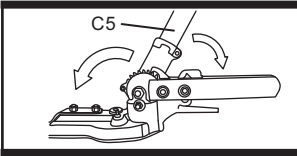

Fig. 16b
- b). Move the hedge trimmer shaft (C5) with the other hand until the desired angle is adjusted. (See Fig. 16b)